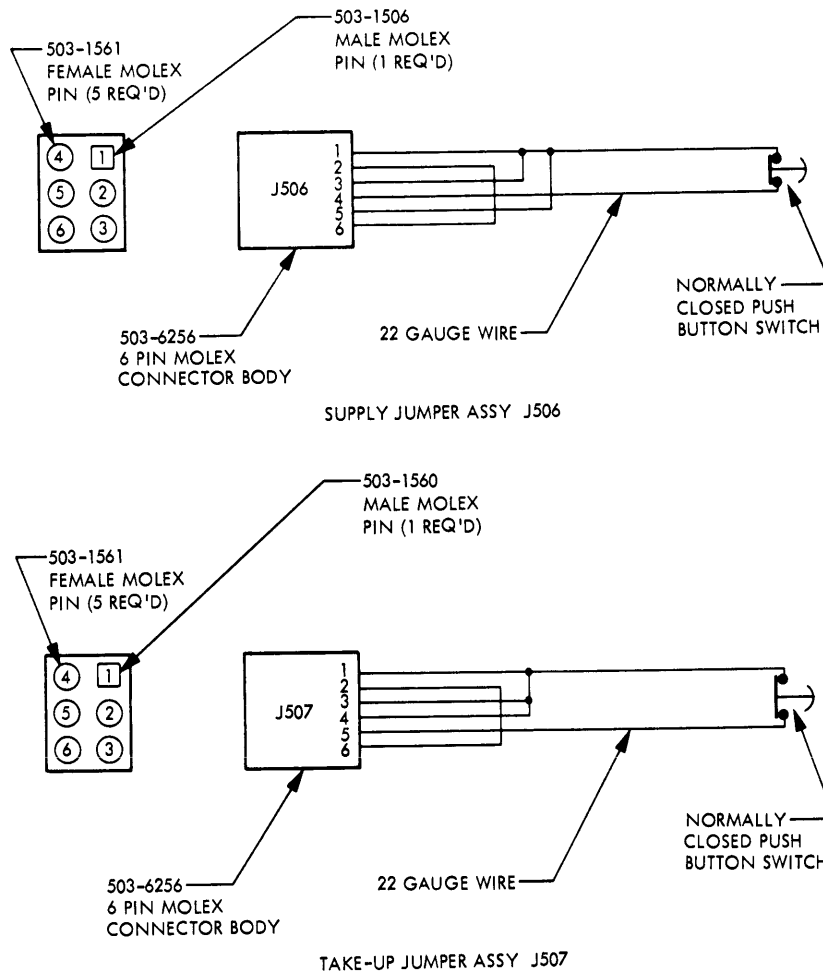

Figure 6-2. J506 and J507 Test Jumper Assemblies
- (1) Fabricate two jumper assemblies as shown in Figure 6-2.
- (2) Remove J506 from the Tape Control PCBA and install jumper J506 in its place.
- (3) Remove J507 from the Tape Control PCBA and install jumper J507 in its place.
- (4) Remove the supply reel and apply power to the transport.
- (5) Place the Maintenance switch in the reverse position.
- (6) Connect a jumper from TP17 to TP16.
- (7) Insert tape segment between the EOT/BOT sensor and the reflector plate.